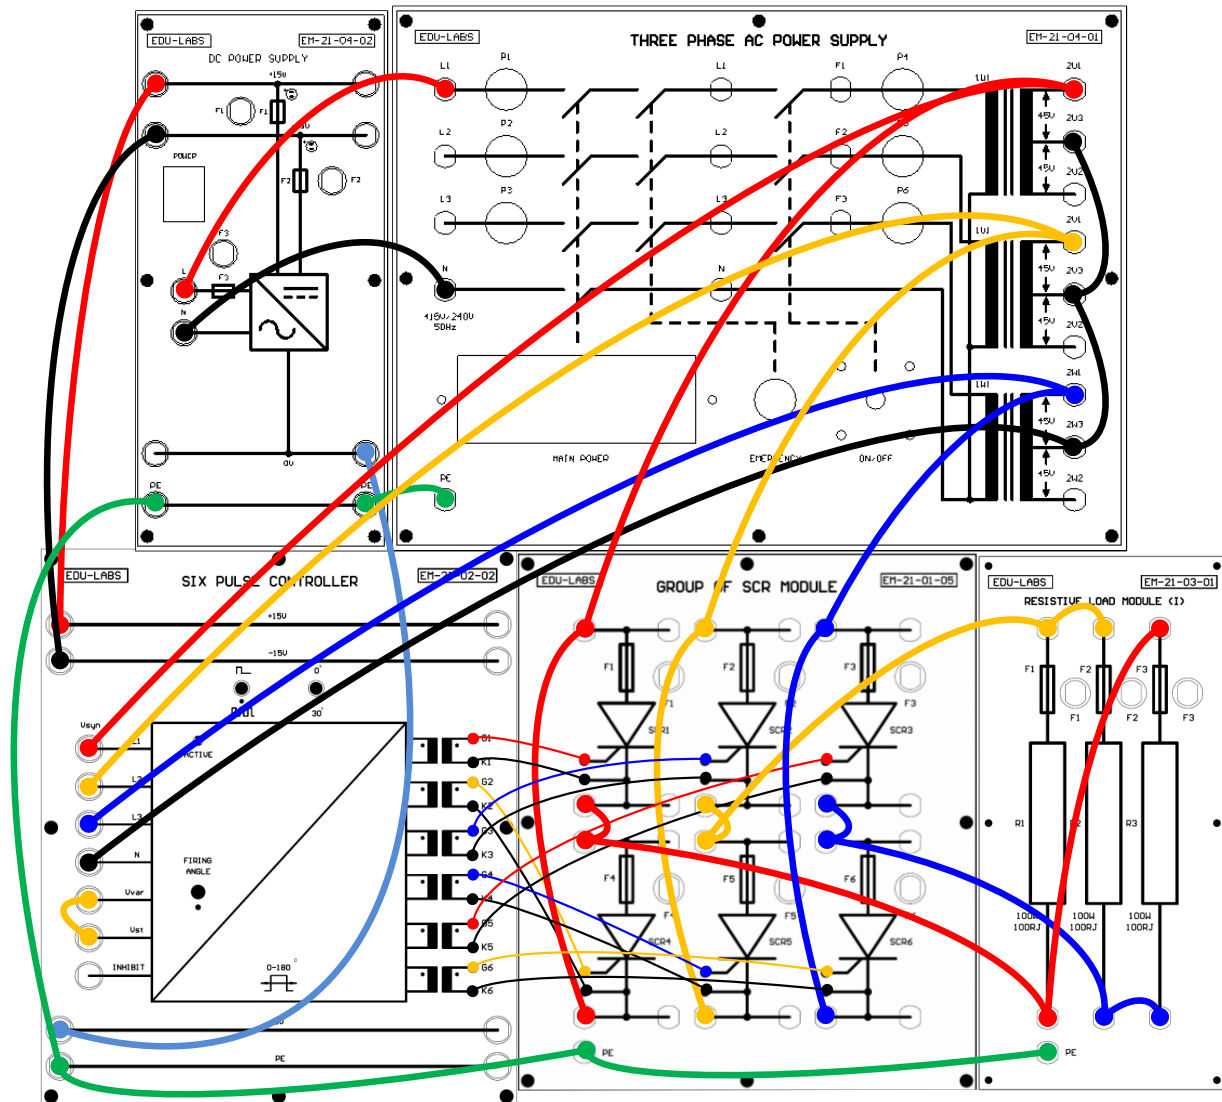

Figure 19.1 Current diagram for examine the phase control of the delta-connected three phase Bi-direction connection on resistive load
1. Construct the circuit according to current diagram Figure 19.1
**Refer to Figure 19.1 while connecting.**